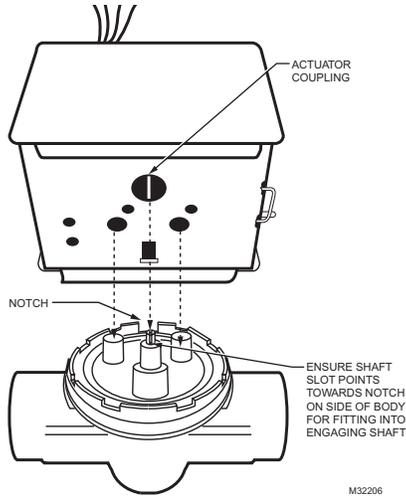

Fig. 2. Installing new actuator.
1. Orient slot in shaft of VU-series valve body toward notch in side of body (i.e. 90° to water flow.) See Fig.2. This lifts the ball off seat, prevents damage to the ball seal while soldering, and makes actuator attachment easier.
5. Line up motor coupling to slot in shaft of body and fit the head onto the valve body, ensuring that the shaft seats correctly. (See Fig. 2).